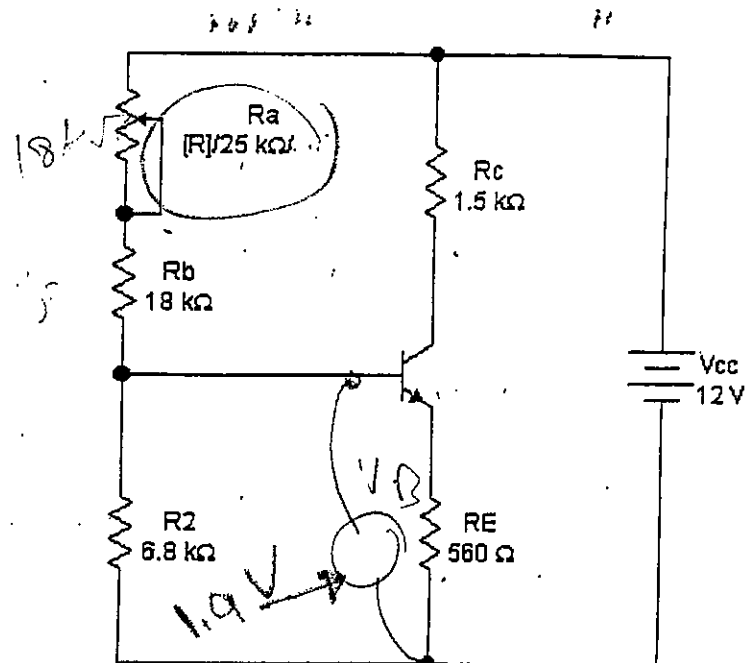

Figure 6.1
- 1- Setup the circuit of Figure 6.1 using (Electronics Workbench Software).